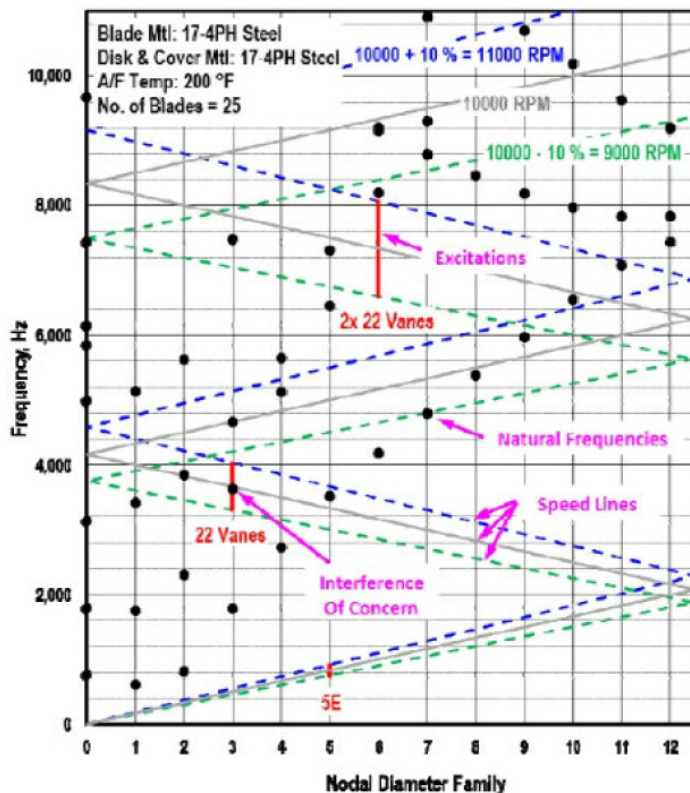

Figure 1: Example Impeller Interference Diagram
There are five basic elements to the diagram shown in Figure 1. The first two elements are the axes. The Y-axis is the frequency in Hz just like a Campbell diagram. The X-axis is the nodal diameters (ND).
natural frequency (black dot) intersects an excitation source (vertical red line) between the operating speed range + margin. An example is noted in Figure 1. All of the other natural frequencies are not intersecting any of the excitation sources, so these should not be issues. In general the most concerning interferences to avoid are those where a lower frequency modeshape is crossed with an excitation source from a vane wake that is closely coupled with the rotor blades. This is because there are stronger forces from the wake closer to where it originated and the lower frequency modeshapes result in larger vibration amplitudes which create higher stresses when excited.